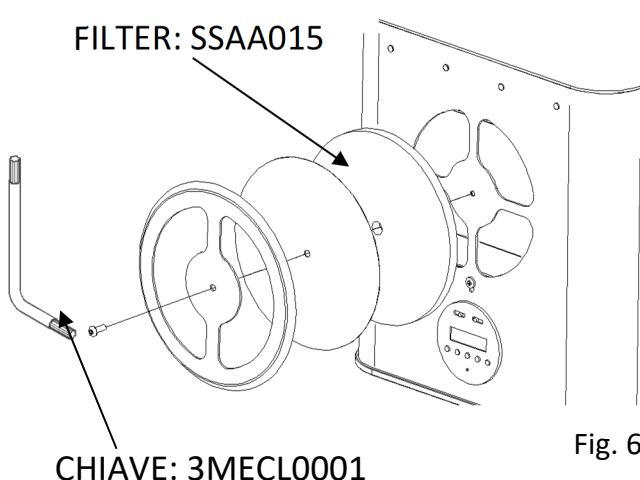

Fig. 6
- 2- Remove the front part of the nozzle where the filter is housed. ( Fig.6)
- 4- Replace the front part of the vent in the order shown in Fig.6